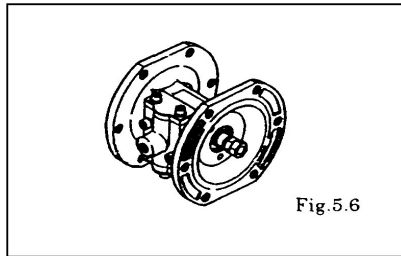

Fig. 5.6
- Remove the centre disk and diaphragm from the opposite side using the double nut. [Fig. 5.6]